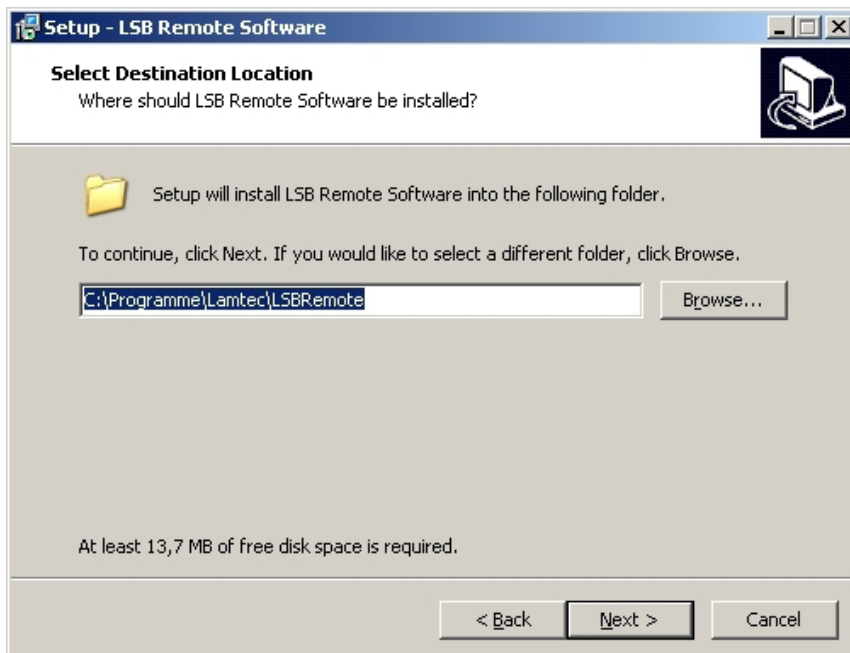

Fig. 5-15 Select destination folder
5. Either answer 'Yes' to confirm this choice, or select 'No' to enter a different path in text box above (see Fig. 5-15 Select destination folder).